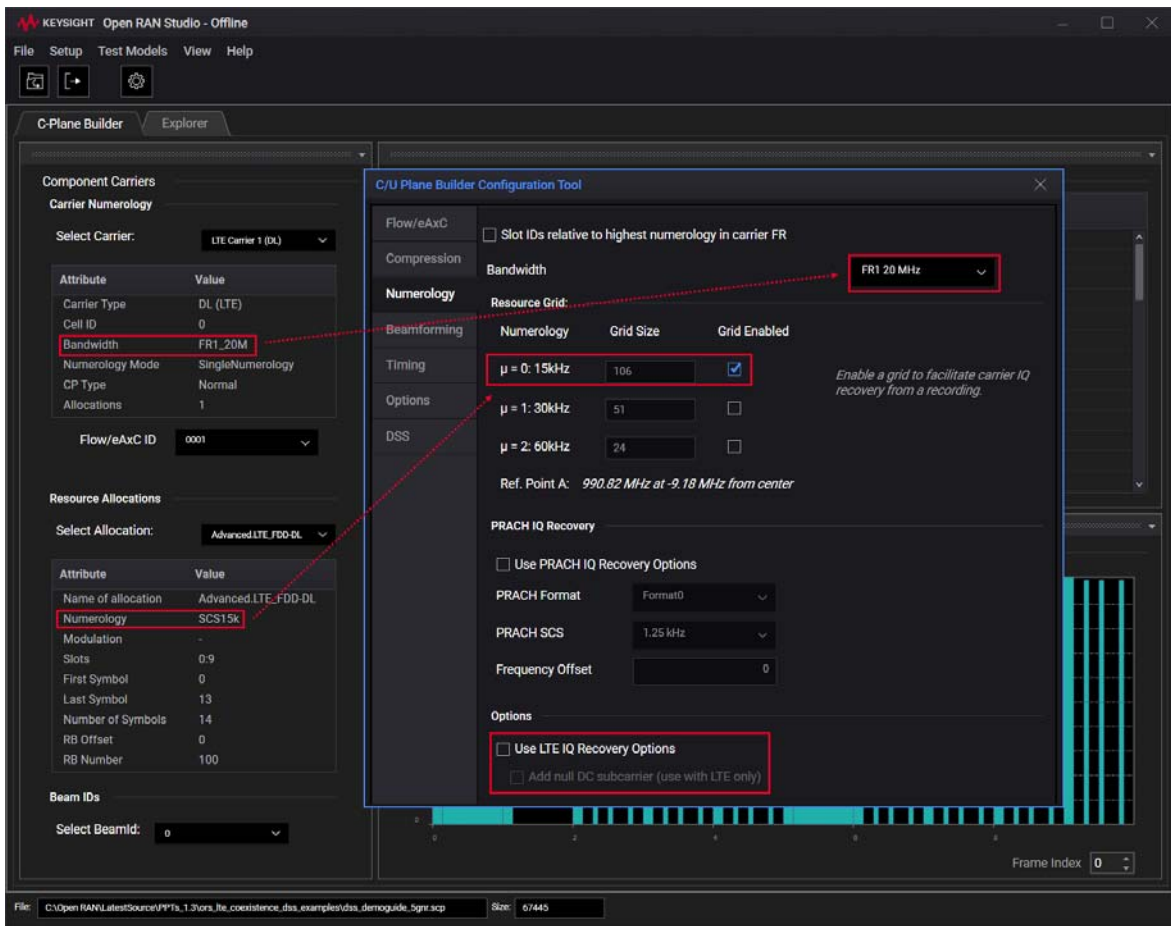

Figure 196 Changing Numerology configuration
- 9 Launch the C/U Plane Builder Configuration Tool again to make the following configuration changes, as shown in Figure 196.